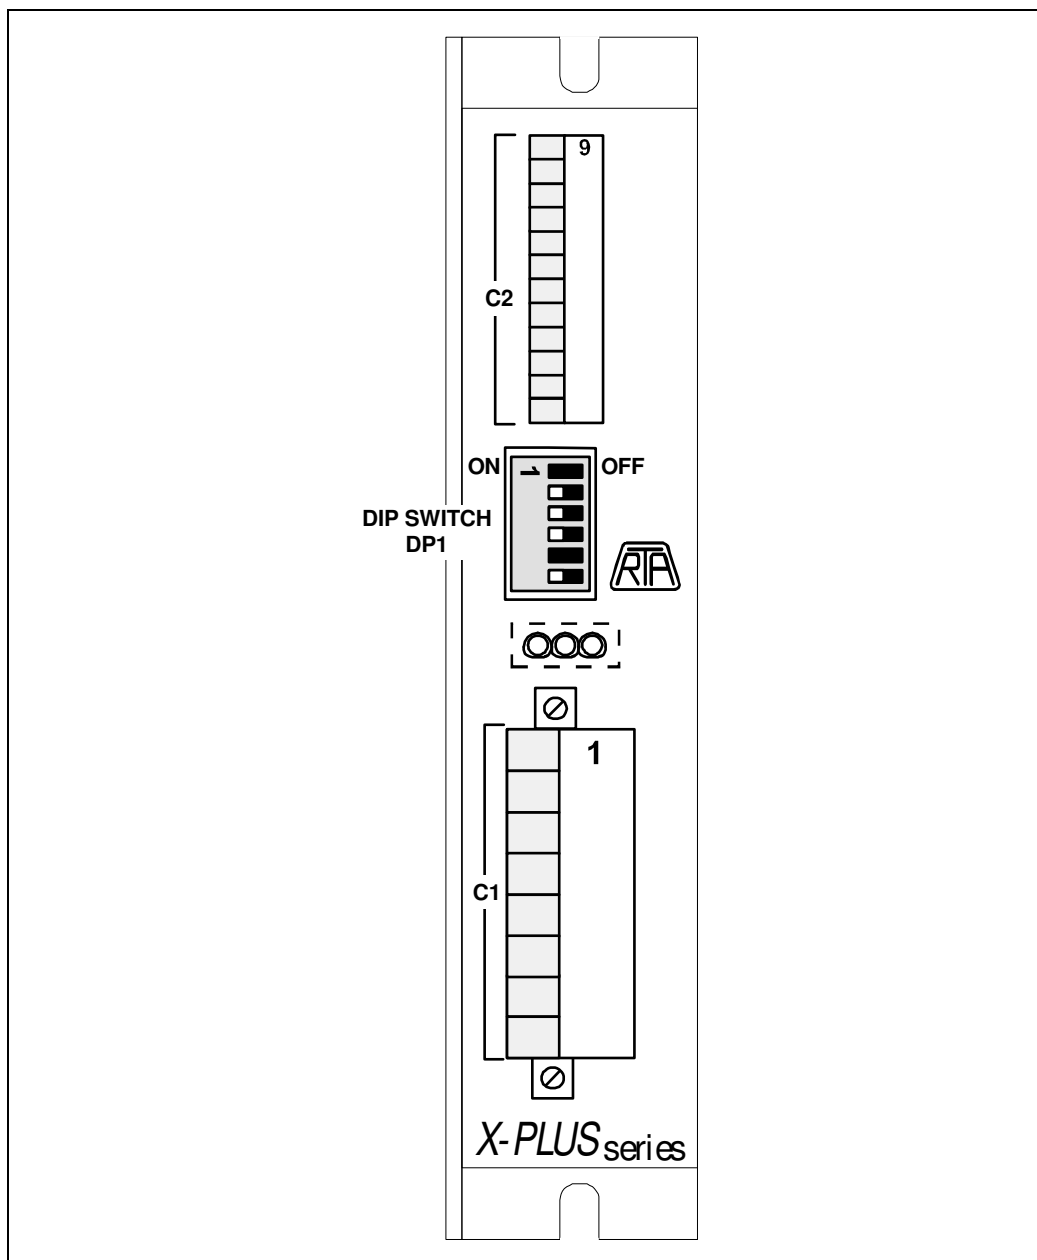

Fig. 5 – Dip-switch DP1, signalling leds and connectors.
- 2.9 - Remote overload protection is required. Integral solid state short circuit protection does not provide branch circuit protection. Branch circuit protection must be provided in accordance with National Electrical Code and any additional local code (see Fig. 5 chapter 7).
- 5.3 - Drive heat sink and terminal 6 of C1 connector are the points of motor-drive system that have to be connected to earth (PE terminal). No other point at a different potential power circuit has to be connected to earth. The terminal 5 of C1 connector (SHIELD) is internally connected to terminal 6 of C1 connector. Other points at the same potential of GND could be connected to earth using the cautions suggested by classical techniques to obtain a correct location of multiple earth connections. Shielded cables of motor outputs must be connected to points at the same potential. See connection schemes of Fig. 5, 12 and 13.
7.2-**Protection systems indicated in Fig. 5 must include:**
- Interpose an EMI filter in AC power input line (see Fig. 5) in order to reduce conducted electromagnetic interferences. Filter characteristics in a specific installation depend on following factors: